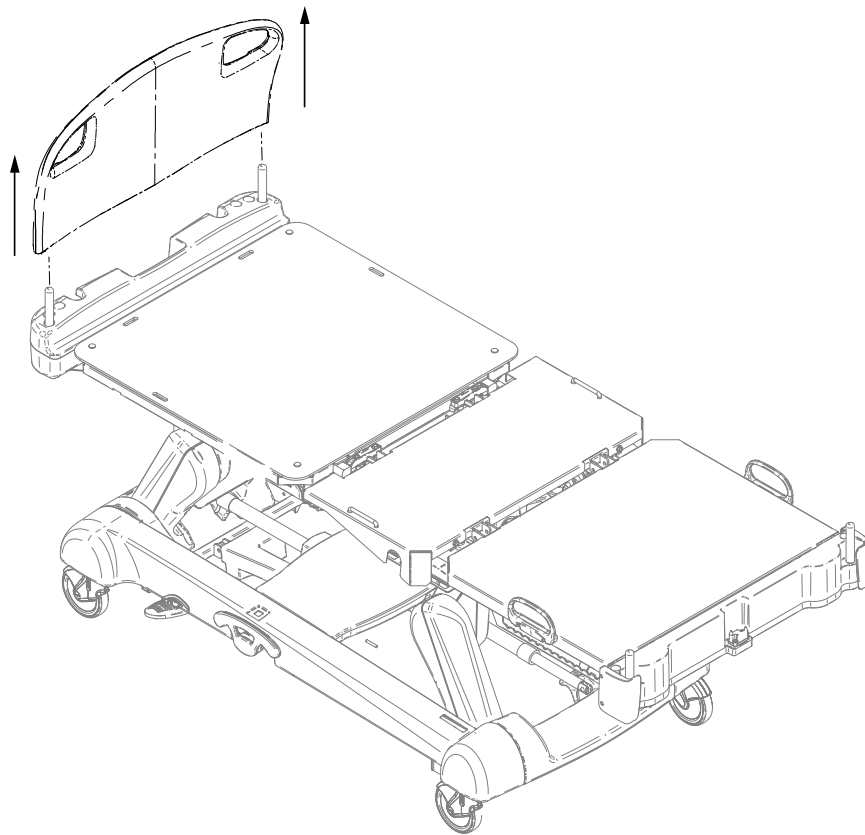

Figure 1 – Insert retainer straps
5. Thread the retainer straps (A), down through the InTouch Fowler retainer holes (B) (Figure 1).